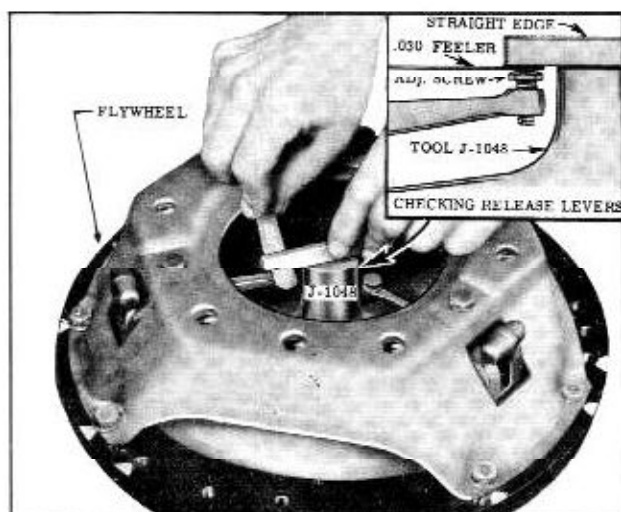

Fig. 10-4 Checking Release Levers
4. Lay a short straight edge across the center boss of the gauge as a guide for positioning release levers. (Fig. 10-4)